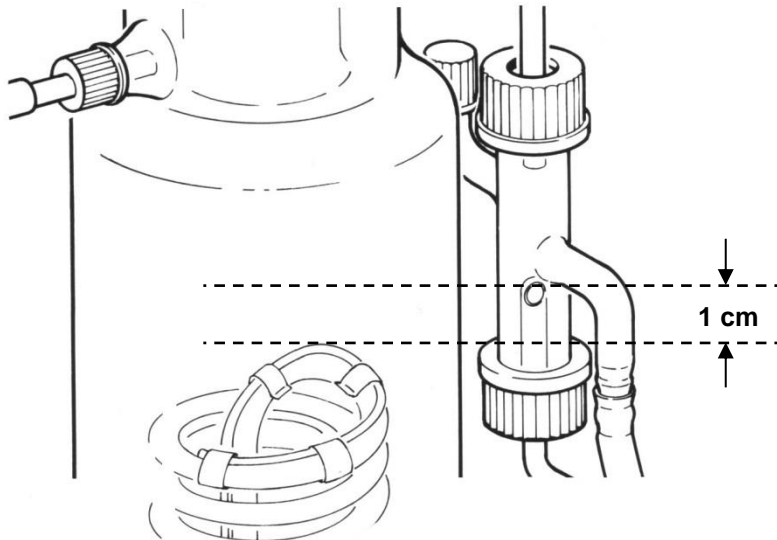

Fig. 2
2. Adjust regulating part DZ 8103 according Fig. 2